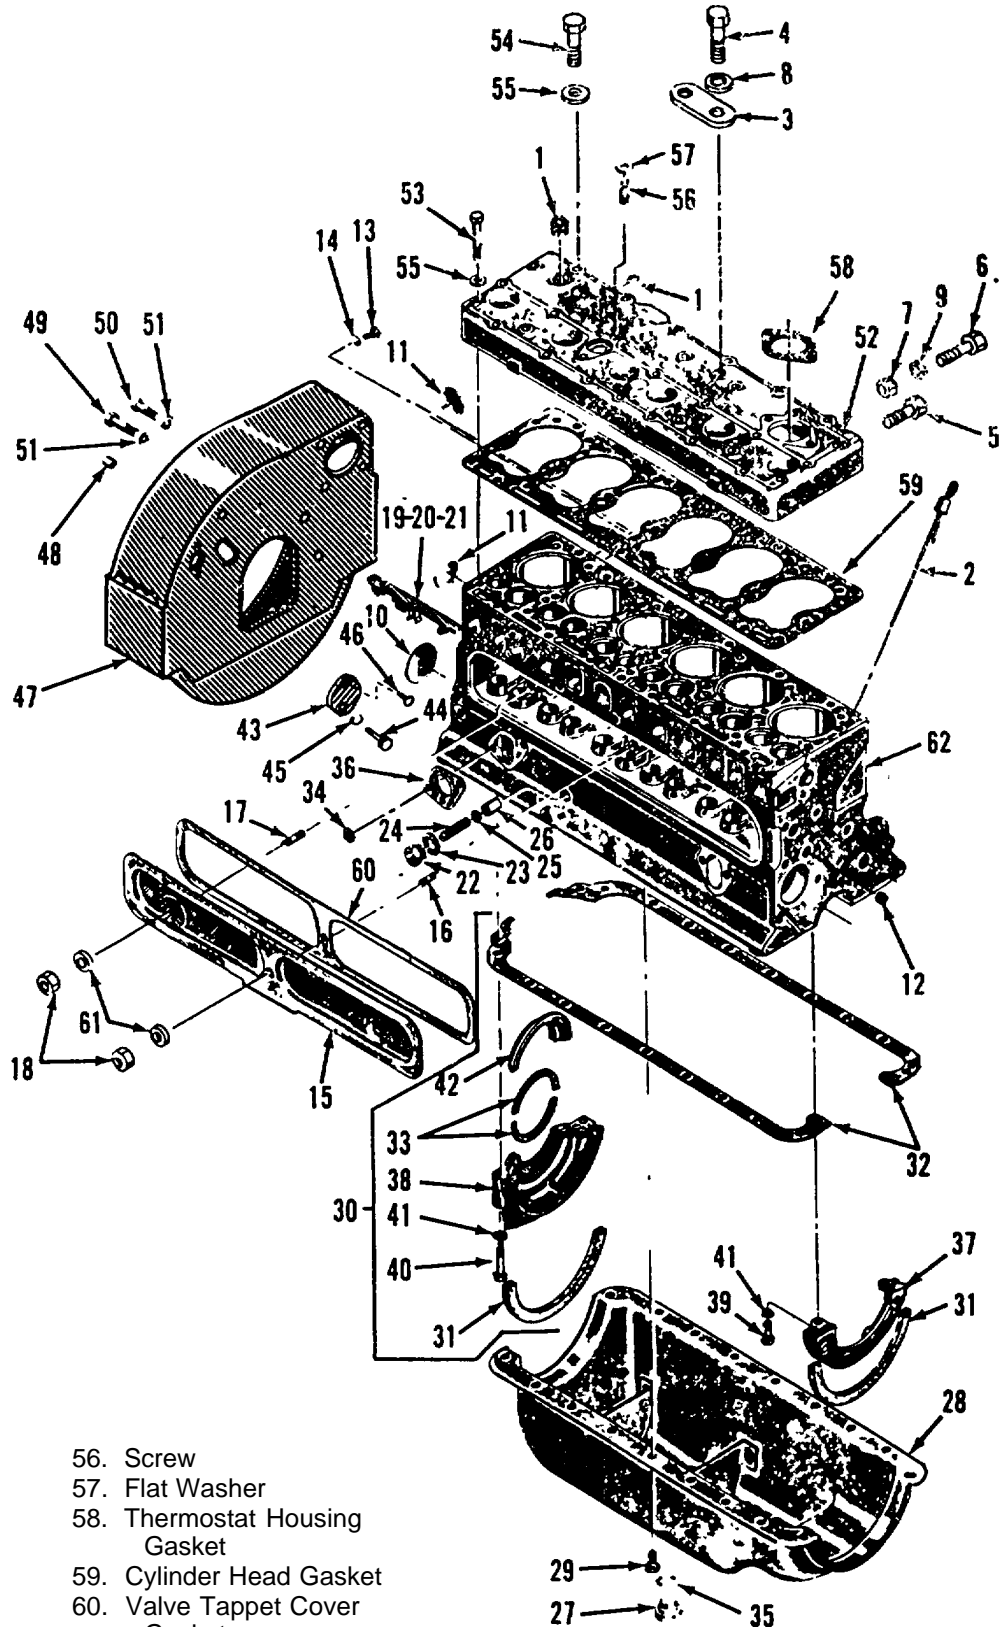
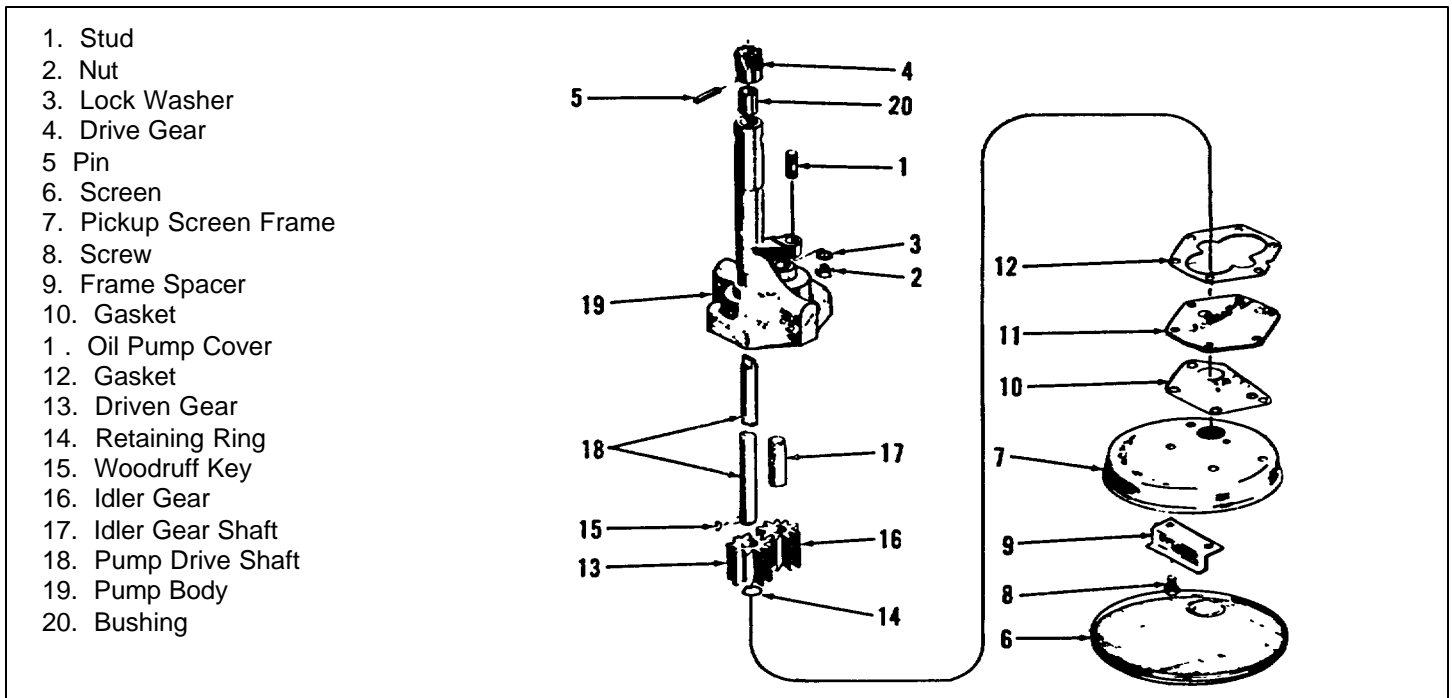

Figure 4-22. Engine Cylinder Block, Head and Oil Pan Group, Exploded View
Figure 4-26. Engine Oil Pump Assembly, Exploded View
1. Remove cylinder head screws (4, 53, and 54, figure 4-22) and washers (8 and 55), and remove cylinder head (52) and gasket (59) from engine cylinder block (62).
1. Remove stud nuts and lock washers and remove elbow (housing) (27 figure 4-22) and thermostat from cylinder head (52).
1. Remove valve chamber cover (15, figure 4-22).
1. Remove attaching screws (29, figure 4-22), and remove oil pan (28). Scrape old gasket (32) and seal remains from pan and block.
2. Remove screws (39) and remove front filler block (37) and seal (31).
3. Remove screws (40) and remove rear filler block (38) and seal (31). Remove half of seal (33) from filler block. Remove gaskets from engine block.
4. Remove oil guard (42) by pushing it around crankshaft and out of engine block. Remove second half of seal (33) from oil guard.
- 4-94. REMOVAL.** Remove nut (2, figure 4-26) and washer (3). Remove oil pump body (19) and assembled parts from crankcase of engine block (62, figure 4-22).
1. Remove screen (6, figure 4-26), screw (8), frame (7), spacer (9), pump cover (11), gaskets (10 and 12), retaining ring (14), gears (13 and 16), key (15) and stub shaft (17).
2. Drive out pin (5) and remove gear (4), bushing (20) and drive shaft (18).
2. Mark flywheel (7) to crankshaft (37) relationship for reinstallation, and remove flywheel from crankshaft by use of jackscrews.
3. Remove cap screws (49 and 50, figure 4-22) and lock washers (51) that secure flywheel housing (47) to engine block (62).